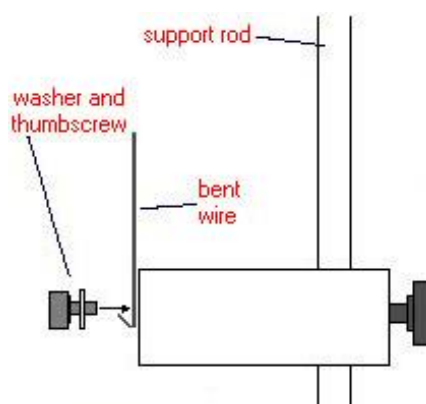

Figure 3: Lower Clamp
4. Adjust the height of the set up so that the upper clamp is approximately half way up the shaft of the Rotary Motion Sensor (see Figure 3). NOTE: When switching to a new diameter wire, try to keep the length of the wires, from clamp to clamp, relatively constant.